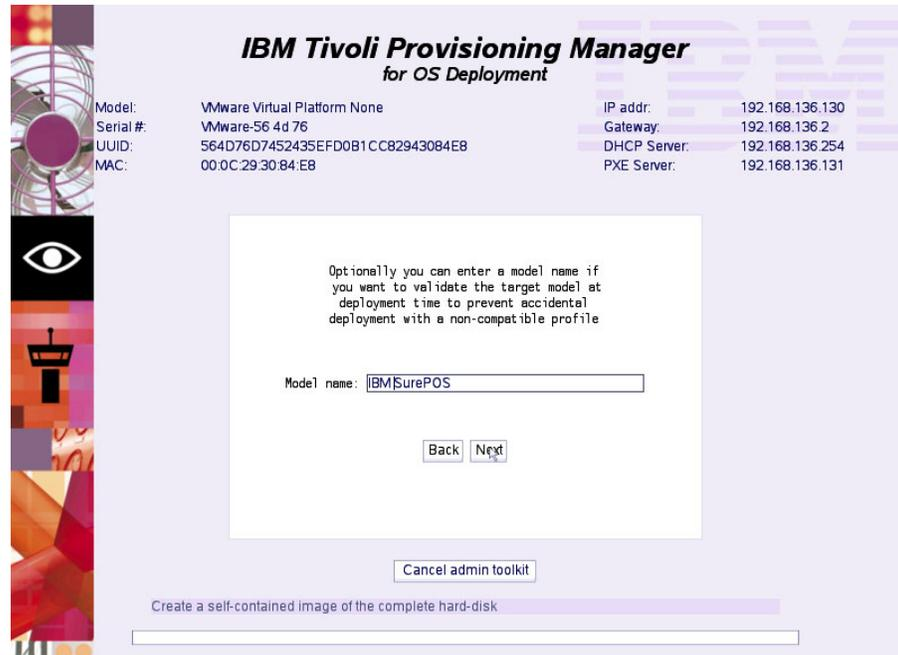

Figure 3-12 Specify the model for the image
8. In the next panel enter the model number to ensure that the profile is deployed only to the proper model. In this scenario the image is being captured for use across all of our different IBM SurePOS system models; therefore, we use the generic IBM SurePOS as the model as shown in Figure 3-12 on page 66.